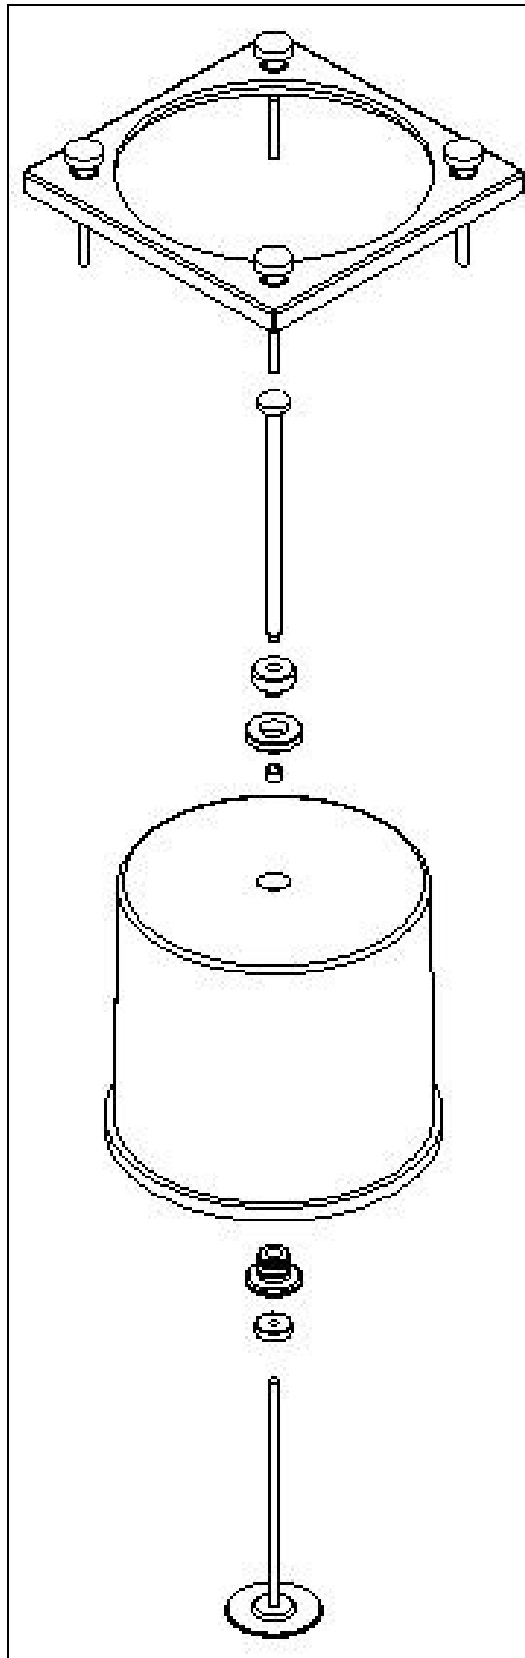

Figure 3: Disassembly of Volume control assembly
5. The bellows canister may be washed or autoclaved (volume control must be removed as shown in figure 3).